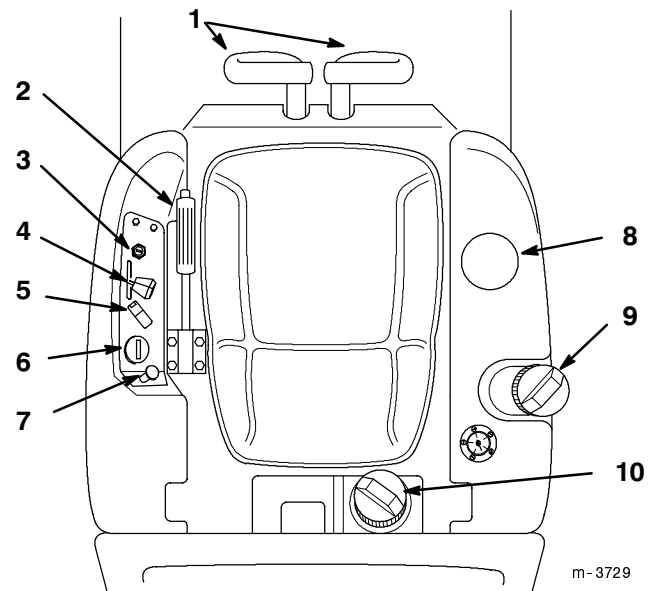

Figure 7
Become familiar with all the controls before you start the engine and operate the machine (Fig. 7).
1. Move the motion control levers to neutral (Fig. 7).